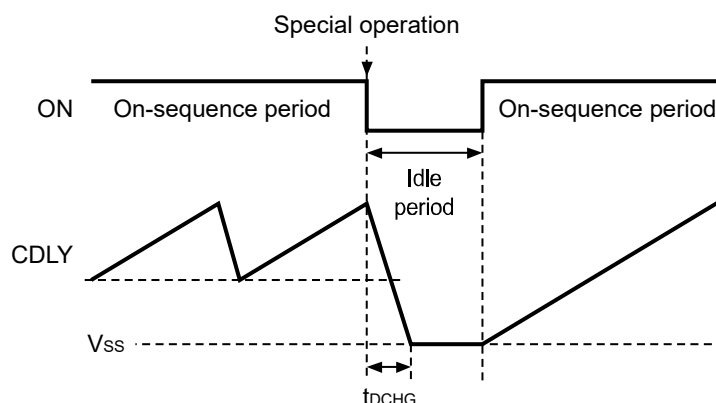

Figure 28
- When the ON pin changes during on-sequence period. (Refer to **Figure 28**.)